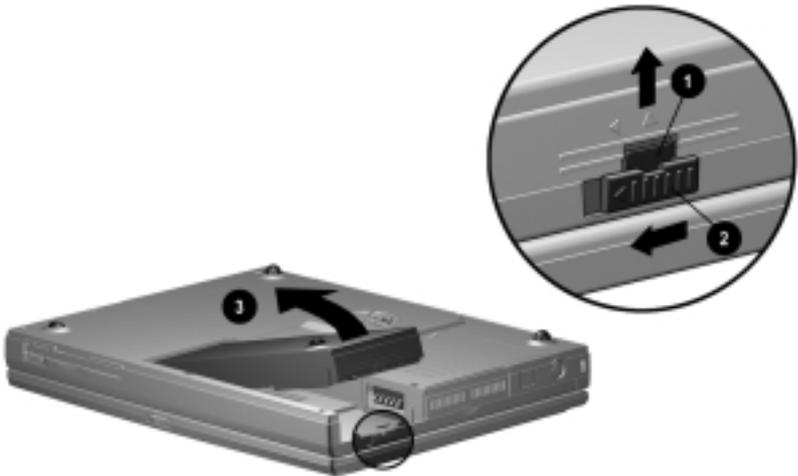

Figure 5-2. Removing the Battery Pack
3. Lift the battery tab up ❶ (Figure 5-2).
4. Slide the battery release switch to the left ❷.
5. Lift up the front edge of the battery pack and swing it away from computer ❸.